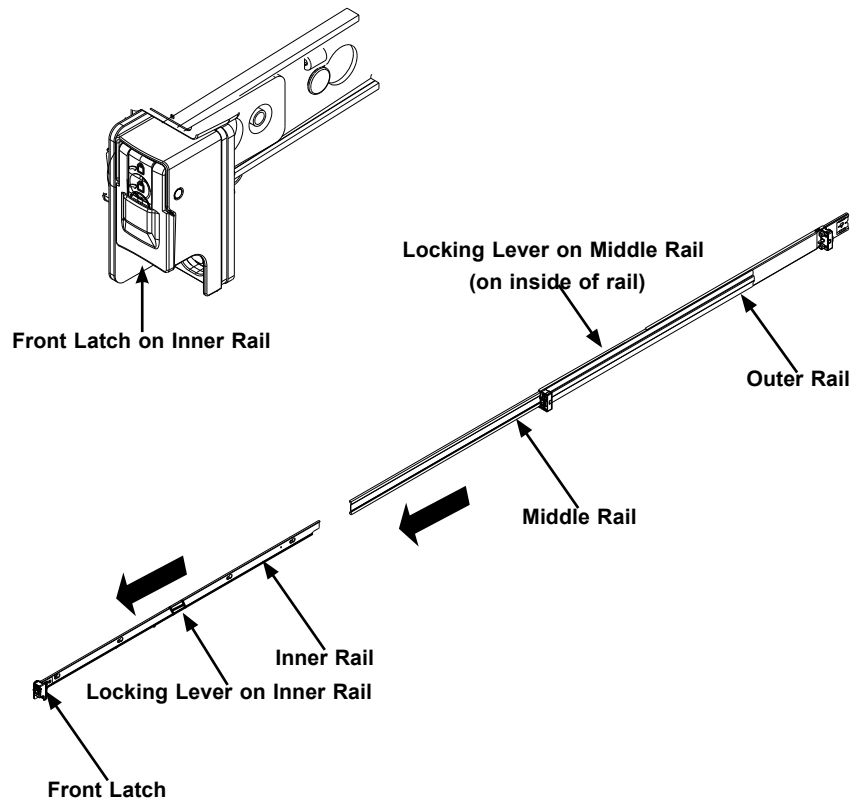

Figure 2-2. Extending the Rails and Releasing the Inner Rail
3. Press down the locking lever on the inside of the inner rail (Figure 2-2) to release the server. Continue to pull the server out of the middle rails.